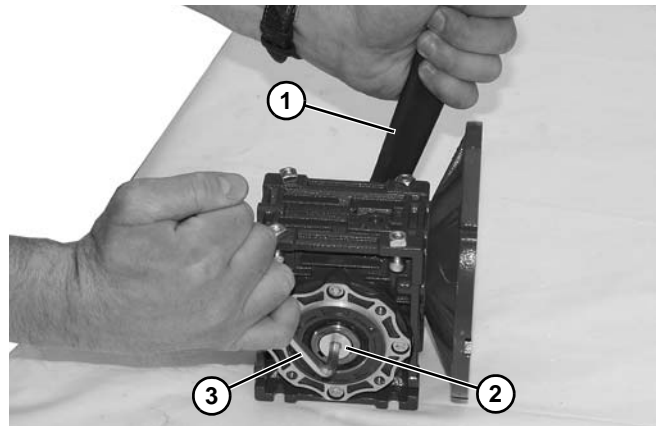

Figure 23
8. Hold the driveshaft with a wrench (**Figure 23, item 1**) as shown to keep shaft from turning, while removing screw (**Figure 23, item 2**) with hex wrench (**Figure 23, item 3**).
Output shaft (**Figure 23, item 1**) is held in Gear Reducer with a tapered press fit. Removal may require use of an arbor press.
14. Hold the driveshaft with a wrench (Figure 23, item 1) as shown to keep shaft from turning, while installing screw (Figure 23, item 2) with hex wrench (Figure 23, item 3). Tighten screw to 350 in-lb (39.5 Nm).